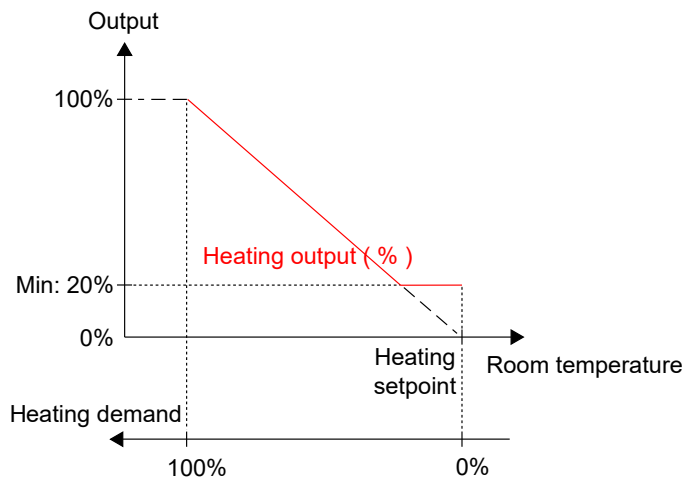

Figure 3-5 Control behaviour when maximum and minimum limits are set for the heating output
A minimum limit for the heating output sequence can be set. *Figure 3-5* illustrates the control behaviour for the controller mode when maximum or minimum limits are set for the heating output.
*Figure 3-5* illustrates how the control behaviour is affected when limits are set for the heating output. For example, when a 20% minimum limit is set, *Heating signal* is always 20% as long as the controller is in heating mode.